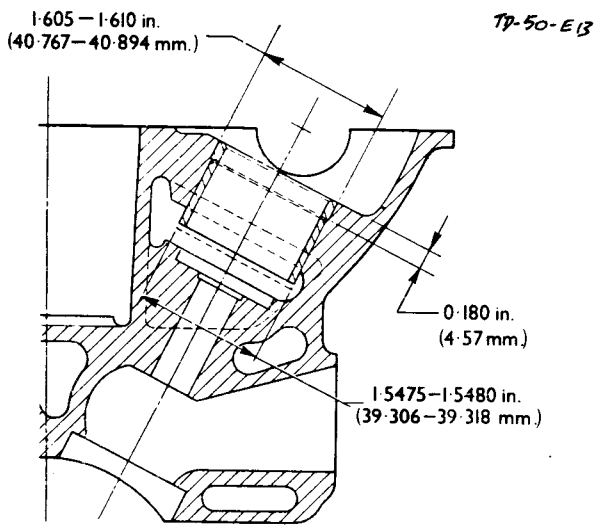

Fig. 13. DIMENSIONS FOR SLEEVE
1. Cam follower sleeves have been fitted from Engine No. LP 1576. If it is desired to fit them to earlier engines, reference should be made to Fig.13.